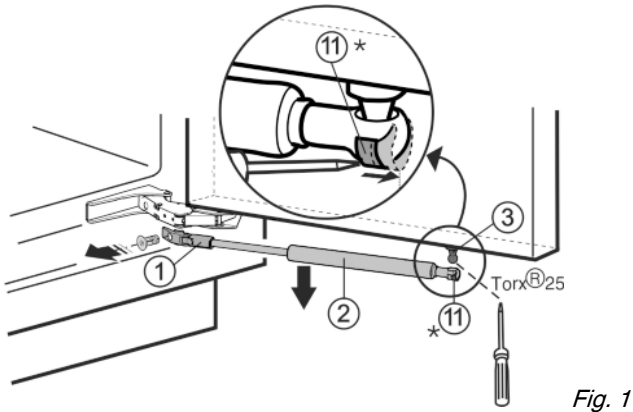

Fig. 1
- ▶ Push tension spring Fig. 1 (11) outwards, using a screwdriver.\*
- ▶ Lower soft stop mechanism Fig. 1 (2) for removal.
- ▶ Unscrew holder Fig. 1 (1).
- ▶ Unscrew the ball stud Fig. 1 (3) (Torx® 25).